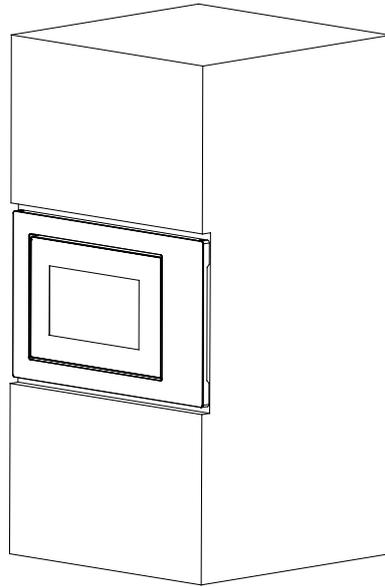

Fig.2
B) Push the microwave oven till to the end. (Fig.2)